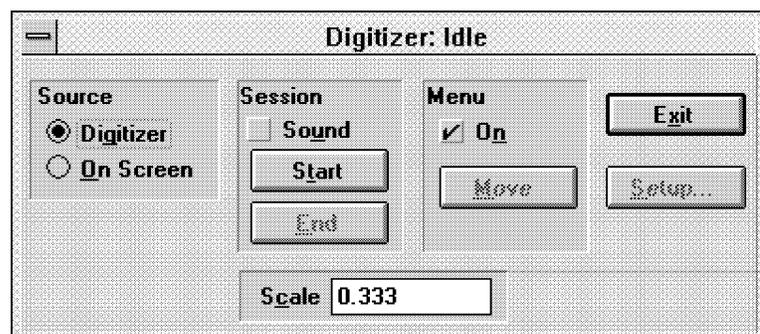

Figure 3-6
- Highlight the current value in the Scale area of the Digitizer dialog box, and type in the determined scale factor value. Refer to Figure 3-6 where we typed .333 as our scale factor.